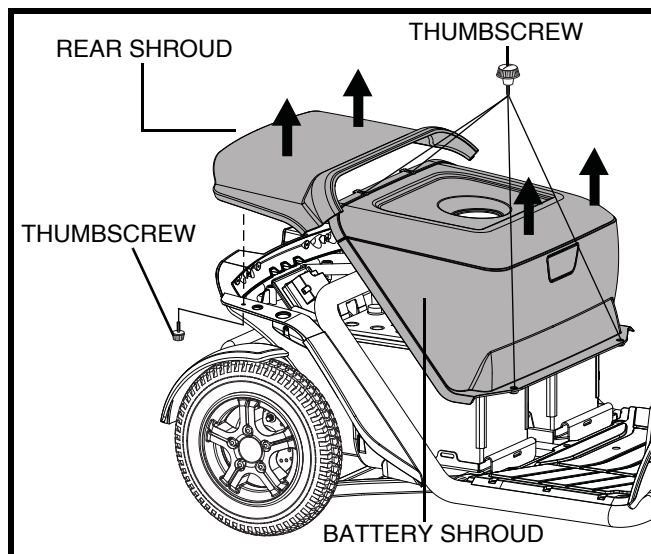

Figure 13. Shroud Removal/Installation
2. Remove the rear shroud by lifting it straight up and off the scooter. The shroud is secured to the scooter with reusable fasteners and two thumbscrews. **See figure 13.**
- Remove the battery shroud by removing the four (4) thumbscrews that secure it to the scooter frame, and then lifting the shroud straight up and off of the scooter. **See figure 13.**